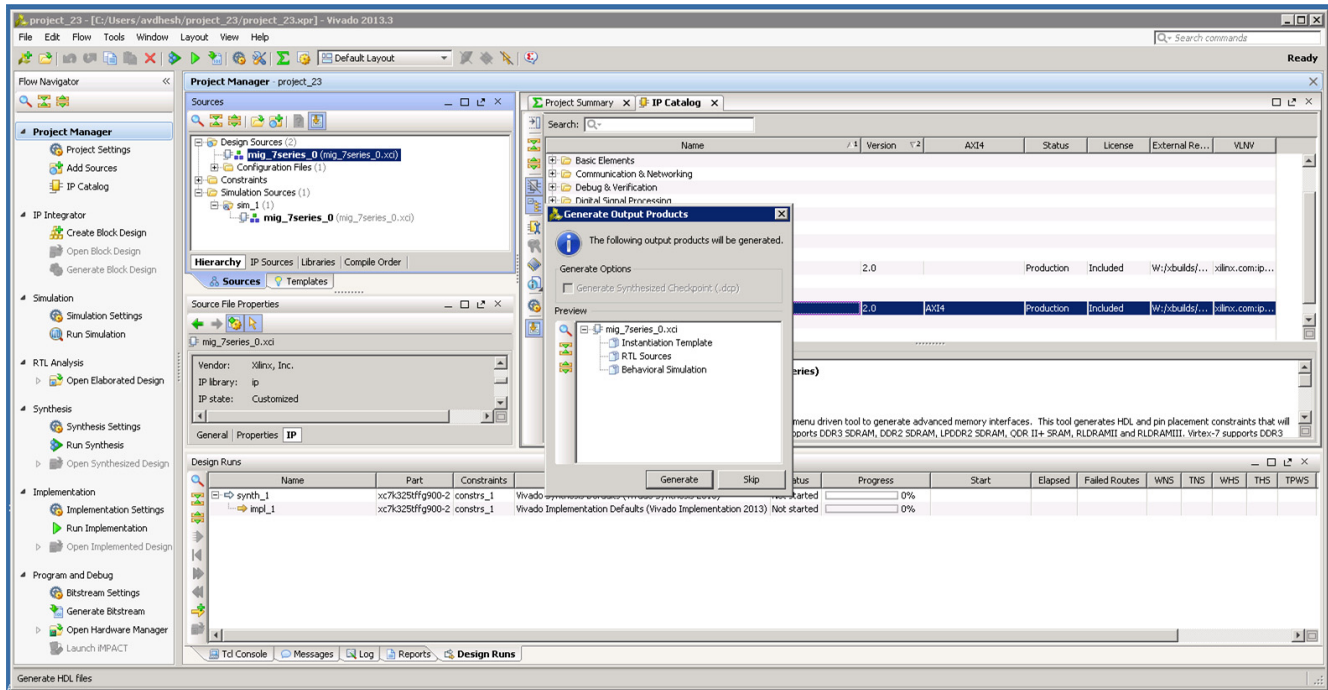

Figure 4-32: Generate Window
7. Clicking **Generate Output Products** option brings up the Manage Outputs window (Figure 4-32).